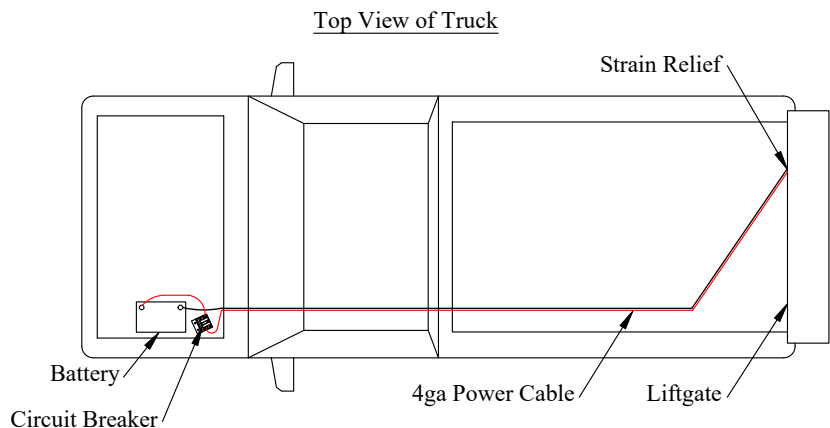

Figure 18: Electrical routing.
3. **Loosen** the strain relief on the back of the liftgate mainframe (Figure 18).
4. Pull the power cable (coiled up in the liftgate mainframe) carefully through the strain relief. Leave approximately two (2) inches of slack inside the liftgate mainframe (Figure 18).
6. Route the power cables along the frame (Figure 18) to the battery following the *Tommy Gate Recommended Electrical Wiring Guidelines*.